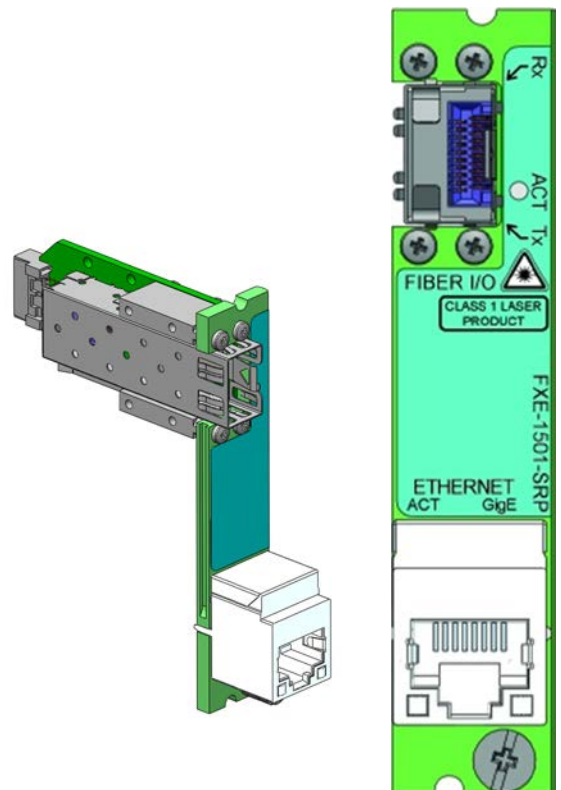

Figure 2.1 FXE-1501-SRP Rear Panel
- FXE-1501-SRP Rear Panel (see figure 2.1)